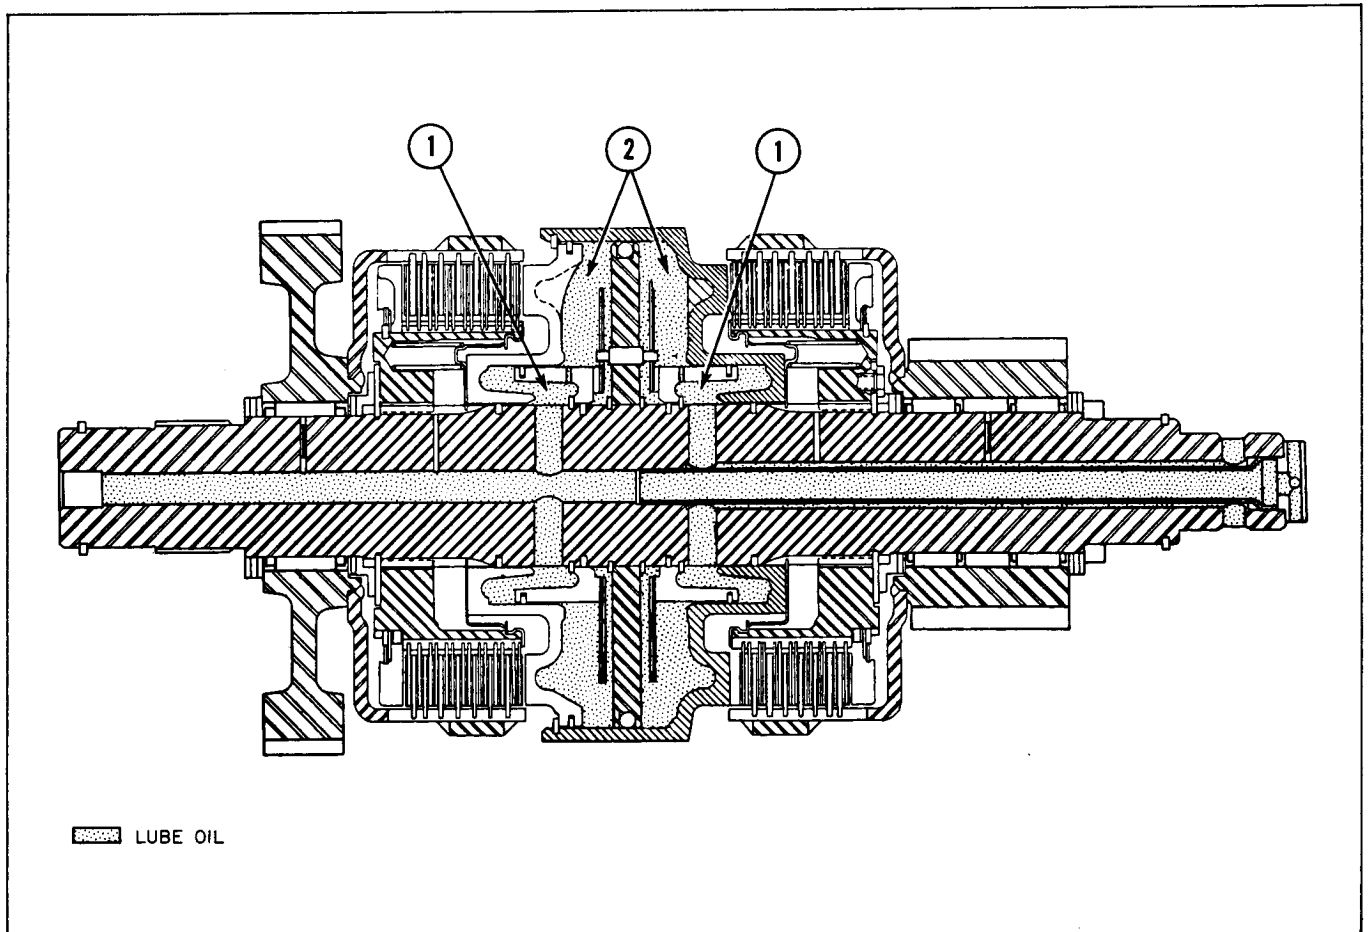

Figure 1-27
selector valve in the neutral position, lube oil is sent through various passages to the oil supply covers and through additional passages in the shaft to the clutch packs. This fills the accelerator piston cavity (1, Fig. 1-27) and clutch piston cavity (2) with oil at lube pressure.